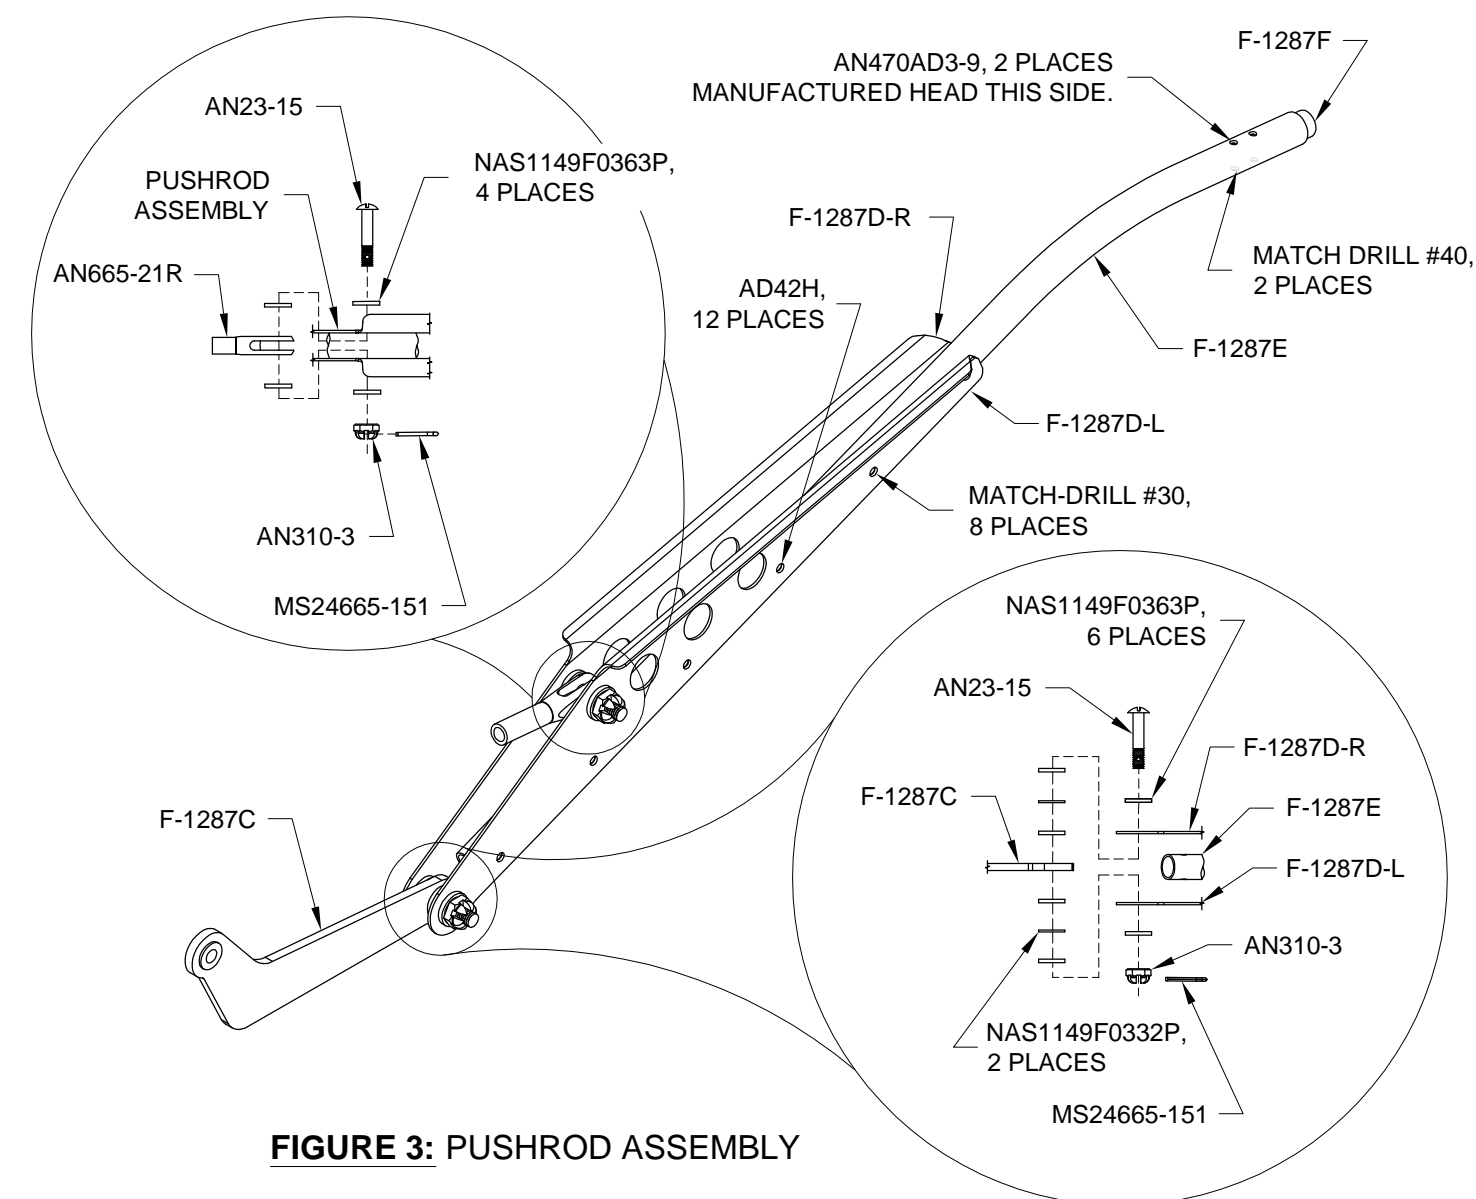

FIGURE 3: PUSHROD ASSEMBLY
Step 5: Match-Drill the holes in each of the F-1287D-L & -R Clevis Plates into the F-1287E Pushrod as called out in Figure 3. Remove the clevis plates **with** the hardware still attached. Clear away chips.
Step 6: Clamp the F-1287F Threaded Insert into the curved end of the F-1287E Pushrod as shown in Figure 3. Use a rivet or similar to align the holes in the threaded insert with the holes in the pushrod.
Step 7: Match-Drill the holes from the F-1287E Pushrod and the F-1287F Threaded Insert into the pushrod as called out in Figure 3.
Step 8: Rivet the F-1287D-L & -R Clevis Plates to the F-1287E Pushrod using hardware called out in Figure 3. Apply pressure toward the clevis plate while setting each rivet. Rivet the F-1287F Threaded Insert to the pushrod using rivets called out in Figure 3.